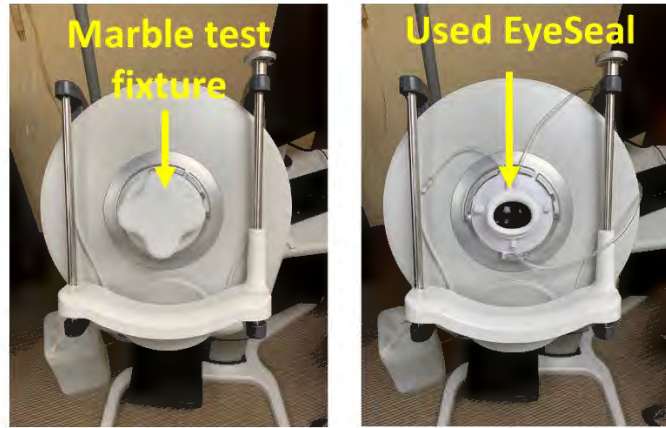

Figure 45: Scan head with marble test fixture and EyeSeal attached to it.
9. Attach a marble test calibration fixture or an EyeSeal (used or new) to the scan head (see **Figure 45**).